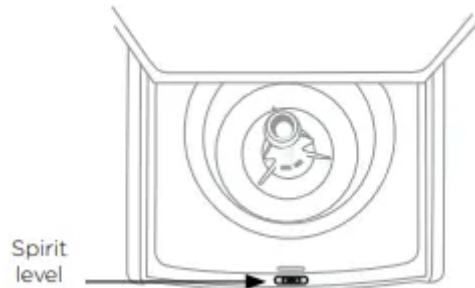

Fig.1 Levelling side to side
2. Open the lid, place the spirit level at the centre front of the top deck forward of the lid lock slot. Level the washer from side to side by winding up or down the front feet (Fig.1).